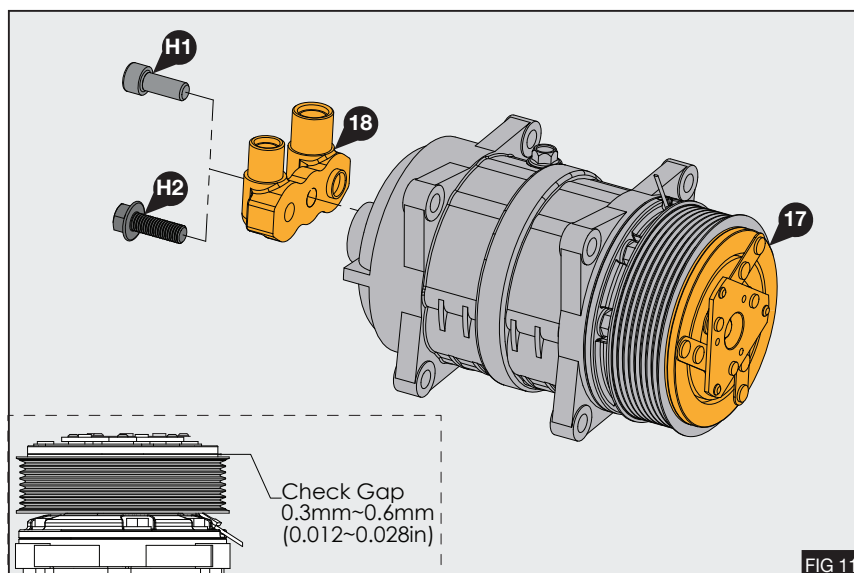

FIG 11
11. The compressor must have a leaf spring style armature installed. If the compressor is not pre-equipped with this type, fit the supplied armature (17) following guidelines in the compressor service manual - Fig 11
12. Fit the supplied manifold (18) - Fig 11